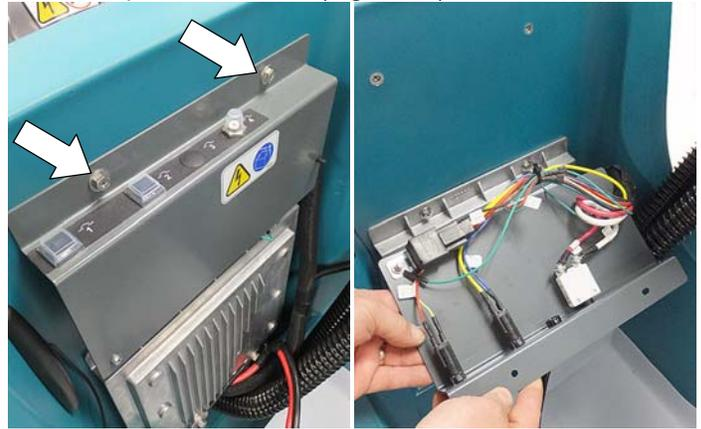

Fig. 16
- Remove two screws from circuit breaker panel and lower panel as shown (Figure 16).